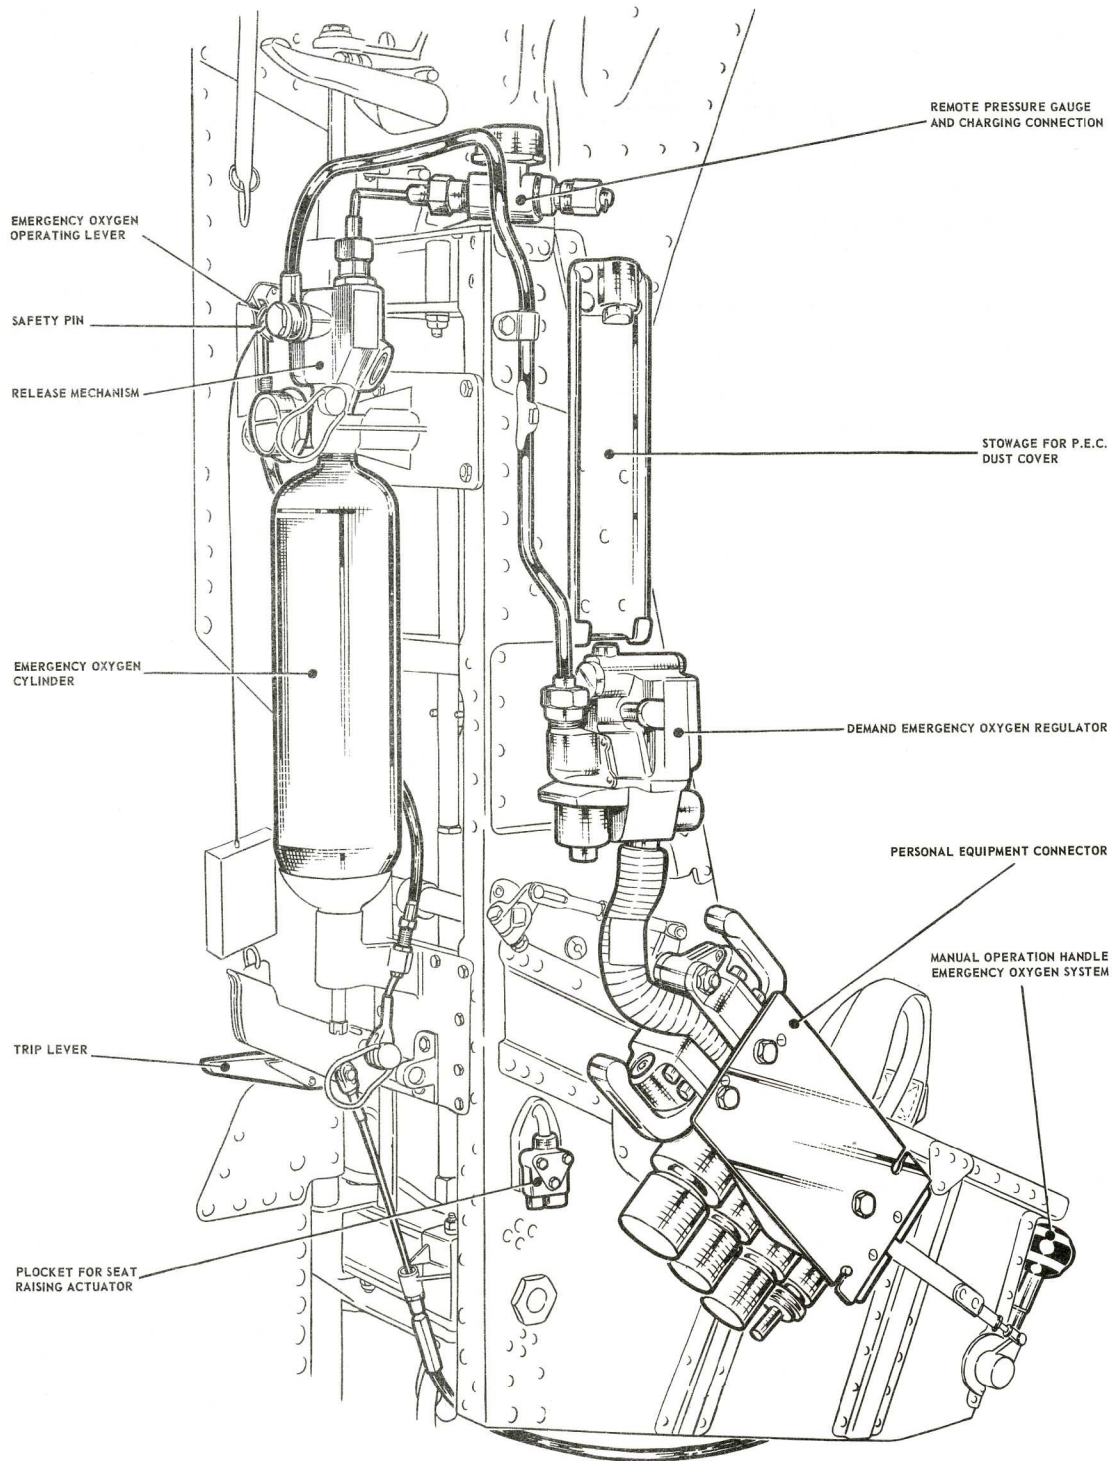

Fig. 1 Arrangement of oxygen supply on seat
16. The following procedure is to be followed when equipping the seat, refer to figs. 1 to 7:—